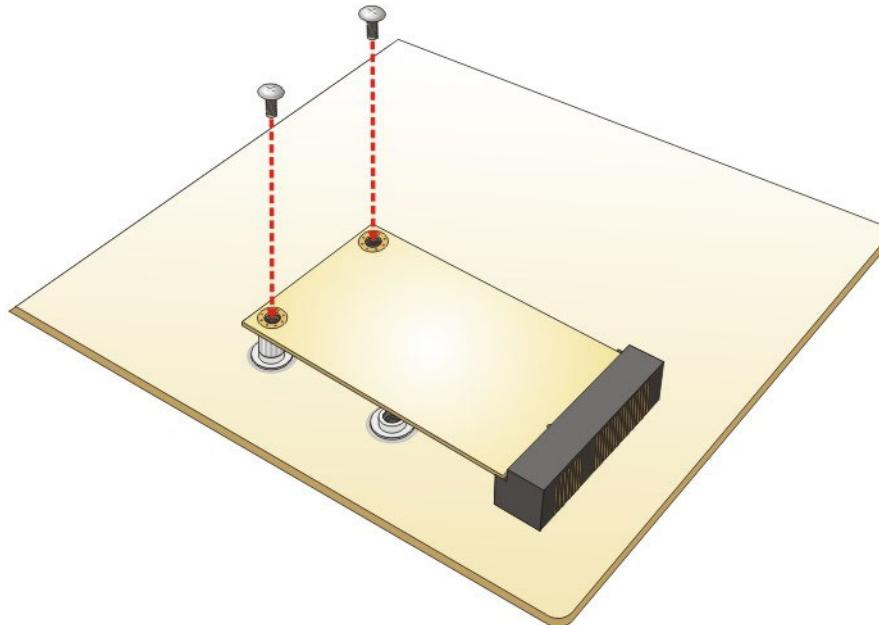

Figure 4-4: Securing the Full-size PCIe Mini Card
Step 4: Secure the full-size PCIe Mini card. Secure the full-size PCIe Mini card with the retention screws previously removed (**Figure 4-4**).